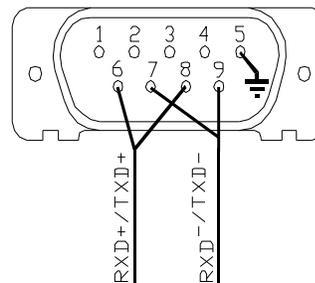

figure 4.22 RS-485 communications pinout
3. Wire the enclosure's serial ports for RS-485 standards, see figure 4.22.